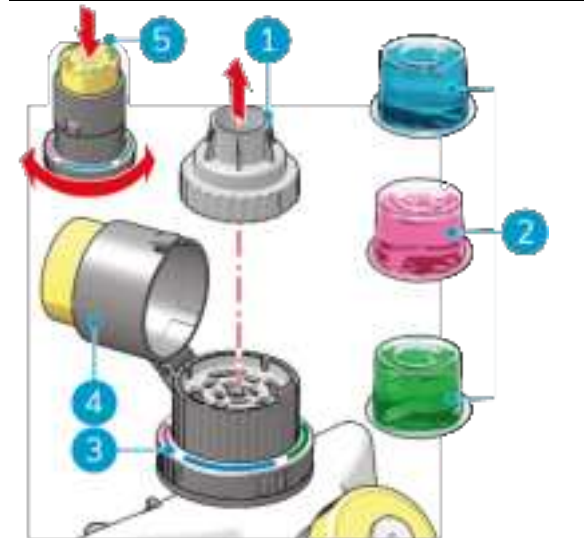

Figure 16
7. If applicable, remove the old i-dose pod and remove the cap (Figure 16, pos. 1).
8. Place the desired i-dose pod (Figure 16, pos. 2) in the i-dose injector.
9. But back the cap (Figure 16, pos. 1).
10. Close the i-dose top (Figure 16, pos. 4).